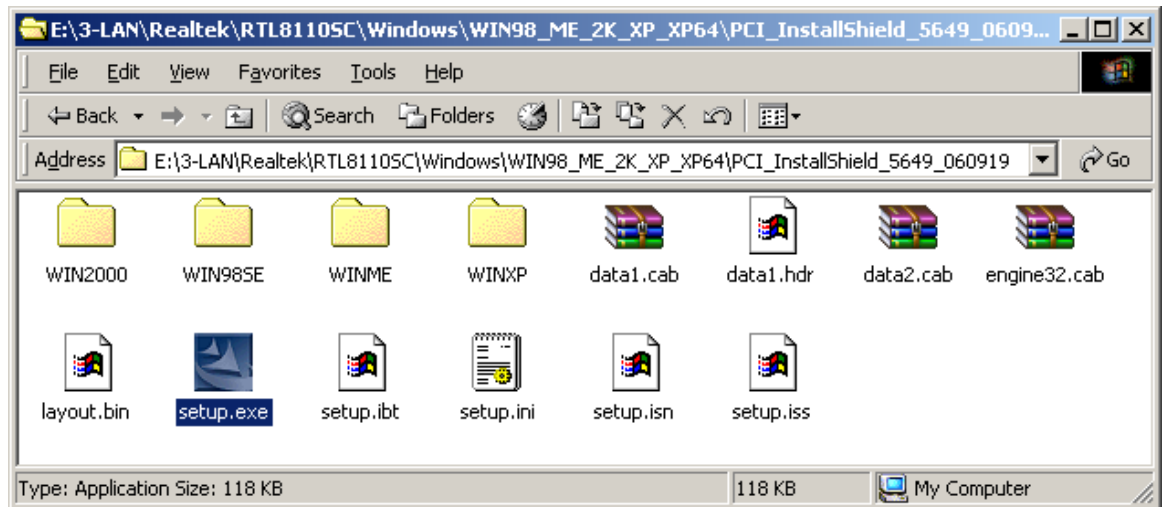

Figure 7-32: PCI_InstallShield_5649_060_919 Folder
Step 7: Double-click the **PCI_InstallShield_5649_060_919** folder and a new window opens (**Figure 7-32**).